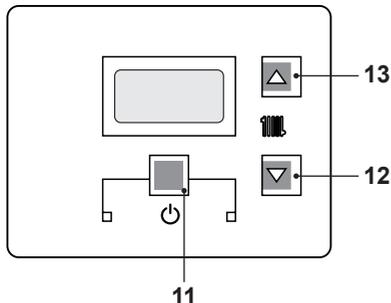
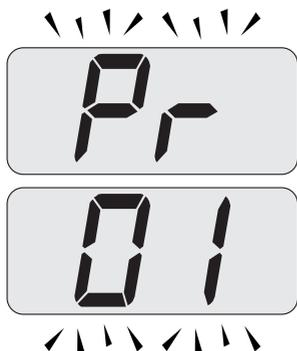
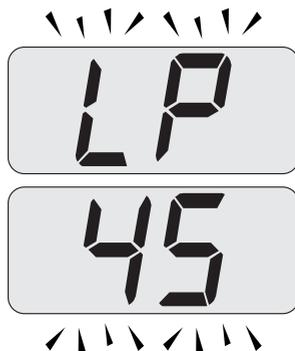
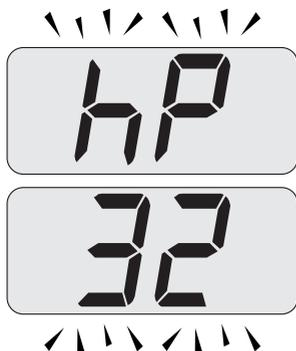

Fig. 9.17
Fig. 9.18
Fig. 9.19
Fig. 9.20
- Enter in "programming mode" by pressing keys 11 - 12 - 13 (Fig. 9.17) for 10 seconds at the same time until the letters **Pr** that alternate with code **01** are displayed on the LCD display, indicating that "parameter 01" (Fig. 9.18) has been activated.
- Press keys 12 and 13 (Fig. 9.17) at the same time until the LCD display displays the letters **LP** that alternate with the heating water temperature value (e.g.**45**), indicating the activation of the "chimney sweep function" at minimum output (Fig. 9.19).
- By pressing 13 (Fig. 9.17) it is possible to change power in chimney sweep mode: with the letters **hP** on the LCD display which alternate between the heated water temperature (i.e.**32**), we are in the "chimney sweep function" at the minimum power during heating (Fig. 9.20).
- Press keys 11 - 12 - 13 (Fig. 9.17) at the same time again to exit the "chimney sweep mode" and return to the previously set boiler status (Fig. 9.23).